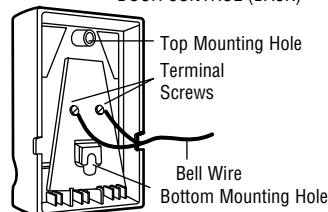

Figure 4 REMOVE COVER
2. Remove cover by gently prying at slot in the side of the cover with a small flat head screwdriver (Figure 4). Fasten with 6ABx1-1/4" self-tapping screws (drywall installation) or 6-32x1" machine screws (into gang box) as follows: